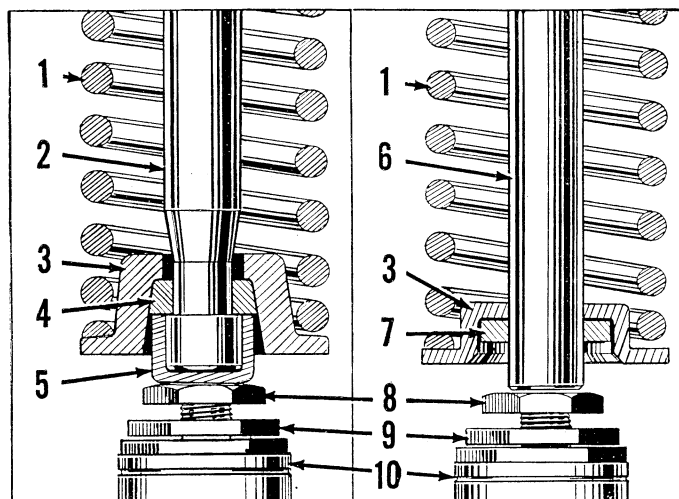

Fig. MH4—Continental N62 exhaust and inlet valves. Valve rotators are used on exhaust valves only.
12. Exh. valves in this engine have Roto caps on their stem ends (Fig. MH4) to provide a rotating motion each time valve is lifted. This causes a wiping action between valve face and its seat and permits longer valve life. To remove valves, remove hood, cylinder head, carburetor, distributor and valve chamber cover. Stuff small bits of cloth in oil return holes in valve chamber to prevent dropping valve spring keepers into crankcase. Compress valve springs and remove keepers (exhaust valves have split half-moon keepers and inlet valves have pins). Lift valves out of guides and springs; take retainer seats and Roto caps out of chamber. Renew valves if stem diameter is less than the values given below.